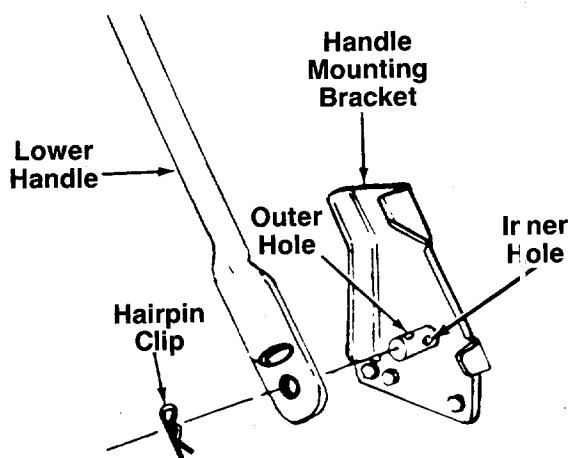

FIGURE 1.
2. Using a pair of pliers, squeeze one leg of the lower handle against the handle mounting bracket. Insert the hairpin clip into the **inner hole** on the weld pin. See figure 1. Repeat on other side.
**NOTE:** There are two (2) holes in the handle mounting brackets. Place the hairpin clip in the inner hole for operation. Outer hole is for storage.